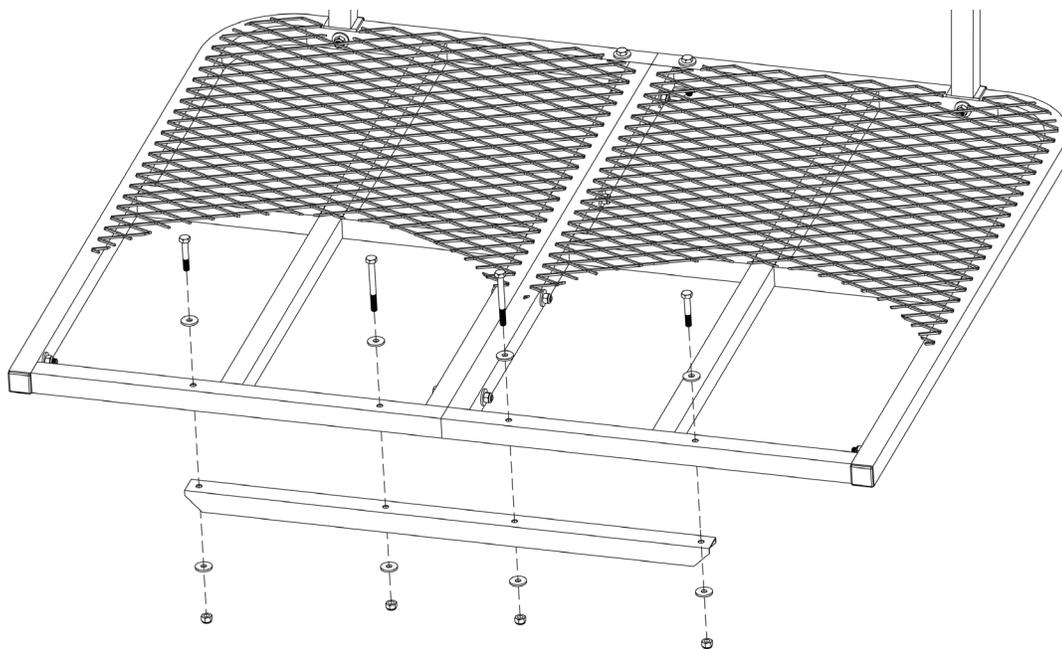

Figure 17
STEP 2: Bolt the platform reinforcement bracket to the bottom of the platform using two (2) $2\frac{1}{2}$ " bolts, two (2) $\frac{1}{4}$ " x $1\frac{3}{4}$ " bolts and by placing one (1) washer under the head of each bolt and one (10 washer under the nuts as shown in Figure 17. Tighten the nuts to 50 pounds.